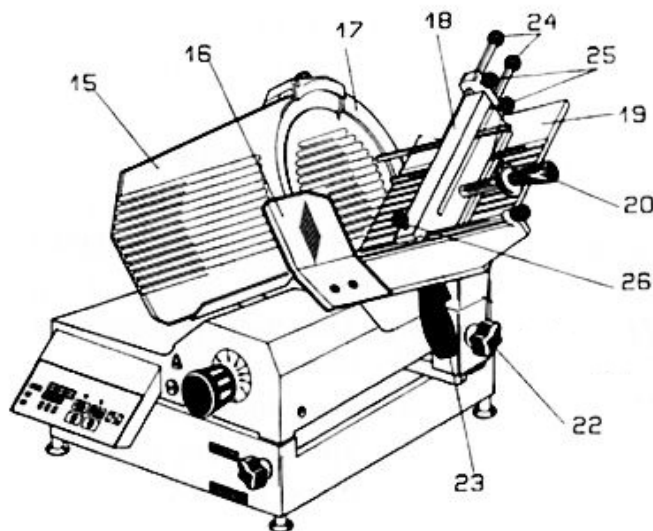

Fig. 10
N.B.: The product to cut is only loaded onto the tray when the graduated dial is set to "0" and with the motor off (Fig. 10).
1. Move the product pusher (18) as far backwards as possible and lock it with the product pusher lock knob (26).
2. Move the control rods (24) towards the outer edge of the tray, releasing the lock knobs (25).
3. Load the product onto the tray so that it rests on the ribbed thickness gauge tray (15).
4. Unlock the product pusher lock knob (26), thereby releasing the product pusher (18) which, due to gravity, will push the product to be cut towards the ribbed thickness gauge tray (15).
5. Loosen the rod lock knobs (25) and push them towards the inside of the tray in order to hold the product against the tray edge (19).
6. Then use lock the rod lock knobs (25) to lock the control rods (24). Use the graduated dial to adjust the thickness of cut desired.